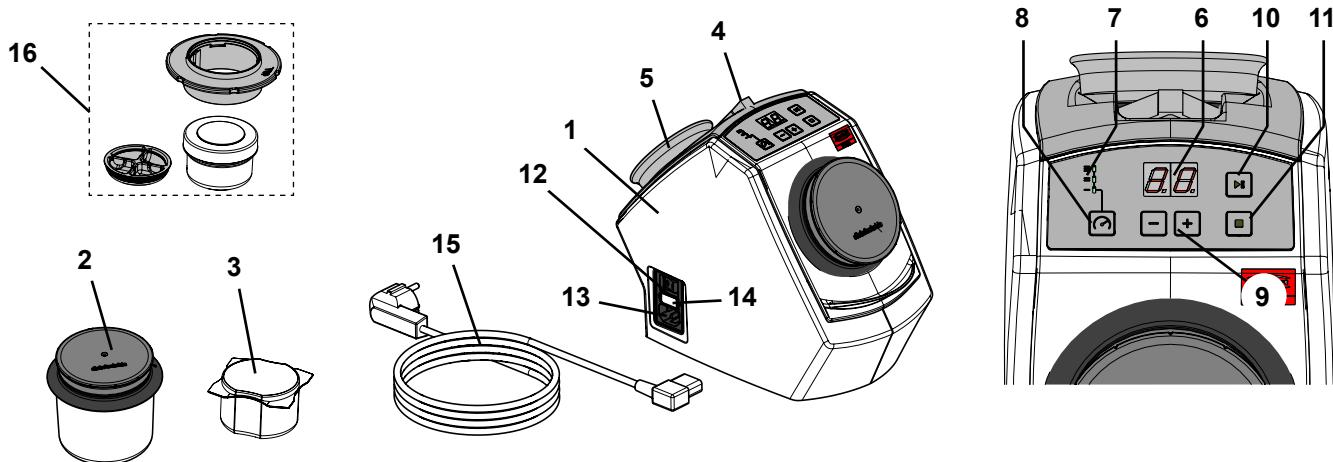

Fig. 1
- ▶ The retaining magnet (Fig. 1, Pos. 5) contains lead
- ⇒ Place the tweezers supplied with the unit and the retaining magnets in the holder on the back of the appliance (Fig. 1).
- ⇒ Choose a power cable (15, Fig. 1) with the proper plug for your mains supply.
- ⇒ Connect the power cable (13, Fig. 1) to the power supply.
- ⇒ Turn on the appliance at the mains switch (12, Fig. 1).
- ⇒ Fill the cleaning beaker (2, Fig. 1) with 75 g cleaning pins (corresponds to one packaging unit).
- ⇒ Fill the SYMPRO mini cup (accessory) (16, Fig. 1) with ~ 5 g cleaning pins
⇒ Adjust the cleaning time with the + / - buttons (9, Fig. 1) (range 0 to 30 minutes).
⇒ Use the selection button (8, Fig. 1) to select / set the intensity.